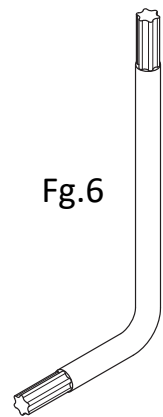
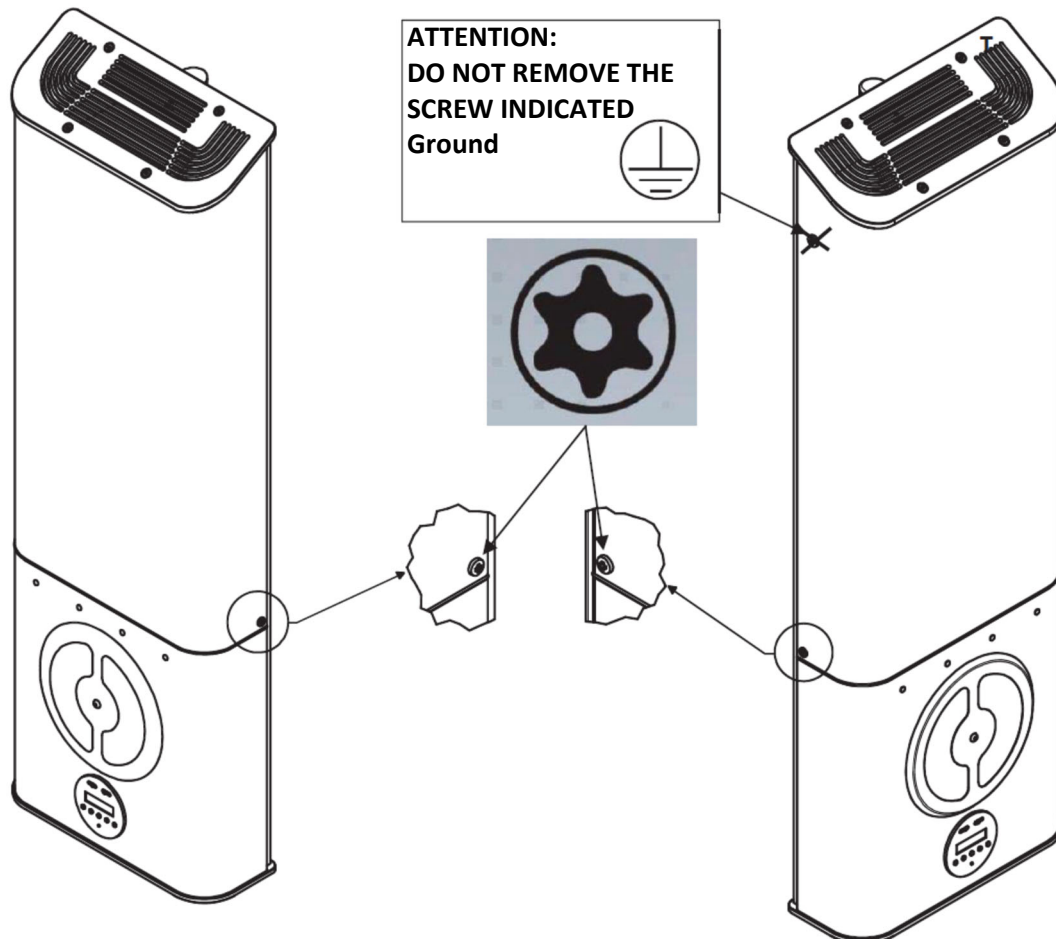

Fig.6
Fig.8
1. Take the supplied L-shaped key (3MECL0001) specific for TORX safety screws (Fig.6) and unscrew the front part;
1. Take the supplied L-shaped key (3MECL0001) for TORX screws (Fig.6) and unscrew the sides of the casing as shown in Fig.8.